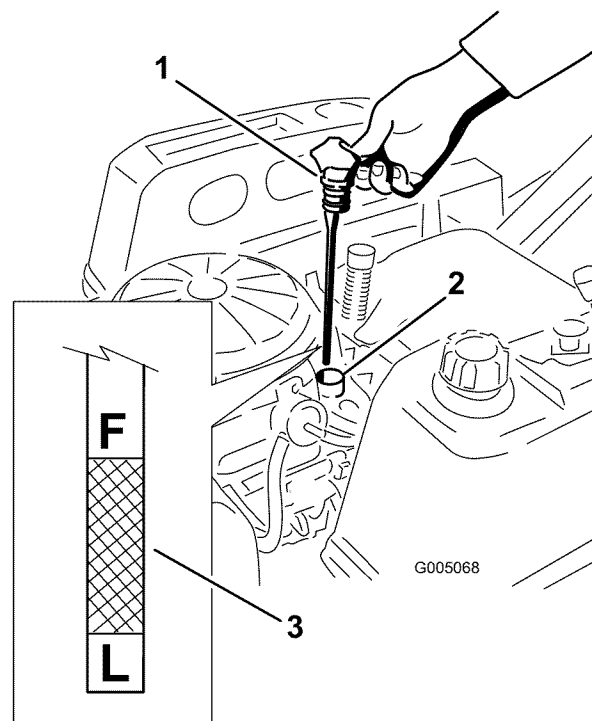
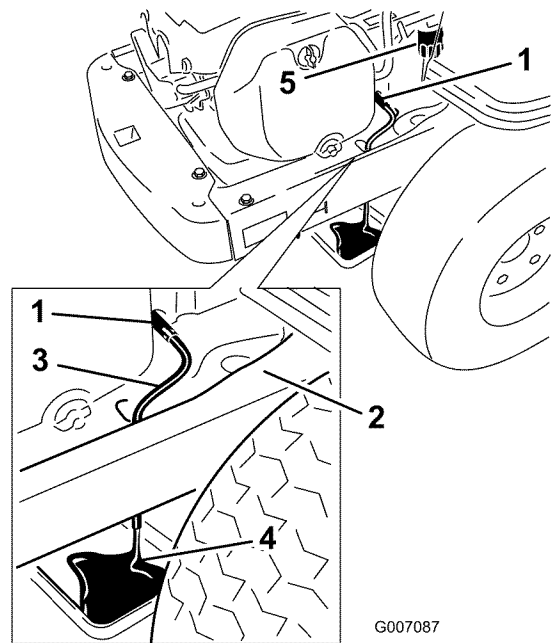

Figure 28
Figure 30
- Pull and remove the oil fill cap/dipstick; wipe oil off. Reinsert the dipstick and push firmly into place (Figure 28).
- Remove the dipstick and check the oil level. (Figure 28).
7. Place a pan underneath machine directly below the drain hole in the frame as shown in Figure 30.
8. Turn the drain valve 1/4 counter clockwise to open and allow the oil to drain (Figure 30). Remove the oil fill cap/dipstick (Figure 28).
10. Remove the old filter and wipe off the mounting pad (Figure 30).
11. When oil has drained completely, close the oil drain valve. Remove the oil drain hose and wipe up any excess oil on the frame (Figure 30).
15. Slowly pour approximately 80% of the specified oil into the filler tube (Figure 28).
16. Install the oil fill cap/dipstick and push firmly into place (Figure 28).
17. Check the oil level (Figure 28); refer to Checking the Oil Level.
19. Install the oil fill cap/dipstick and push firmly into place (Figure 28).